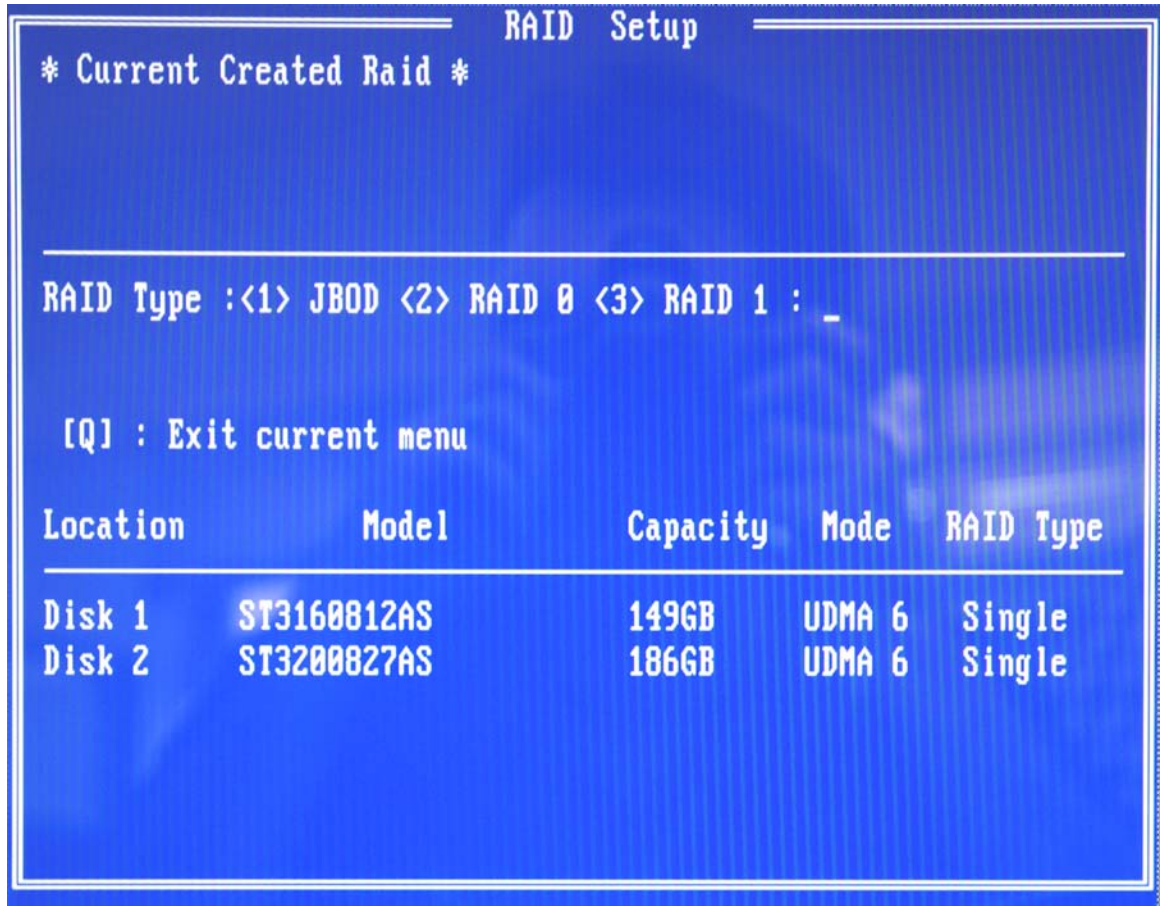

Figure E-6: Create RAID
- Step 5:** The system then prompts the user to select the RAID configuration type. JBOD, RAID0 or RAID1. Select the desired RAID configuration (see **Figure E-6**).